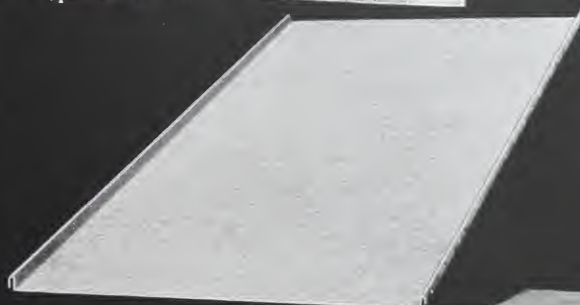

Fig. 3
*V-Crimped Roofing* is made from flat sheets by forming on each sheet one or more ridges that look like the letter "V" turned upside down. When only one crimp occurs at each side edge of the sheet, it is called 2 V-Crimp roofing. See Fig. 3, page 18.
*Pressed Standing Seam Roofing* is somewhat similar to 2-V-Crimp roofing except that the raised portion looks more like the top half of the letter "O" instead of the letter "V." See Fig. 3, page 19. In this type the seam stands slightly higher, making it preferable for use on roofs with a very slight slope or pitch. The higher seam serves as an additional protection against seepage of rain water where the flow of the water from the roof is not as rapid as on a steeper slope.